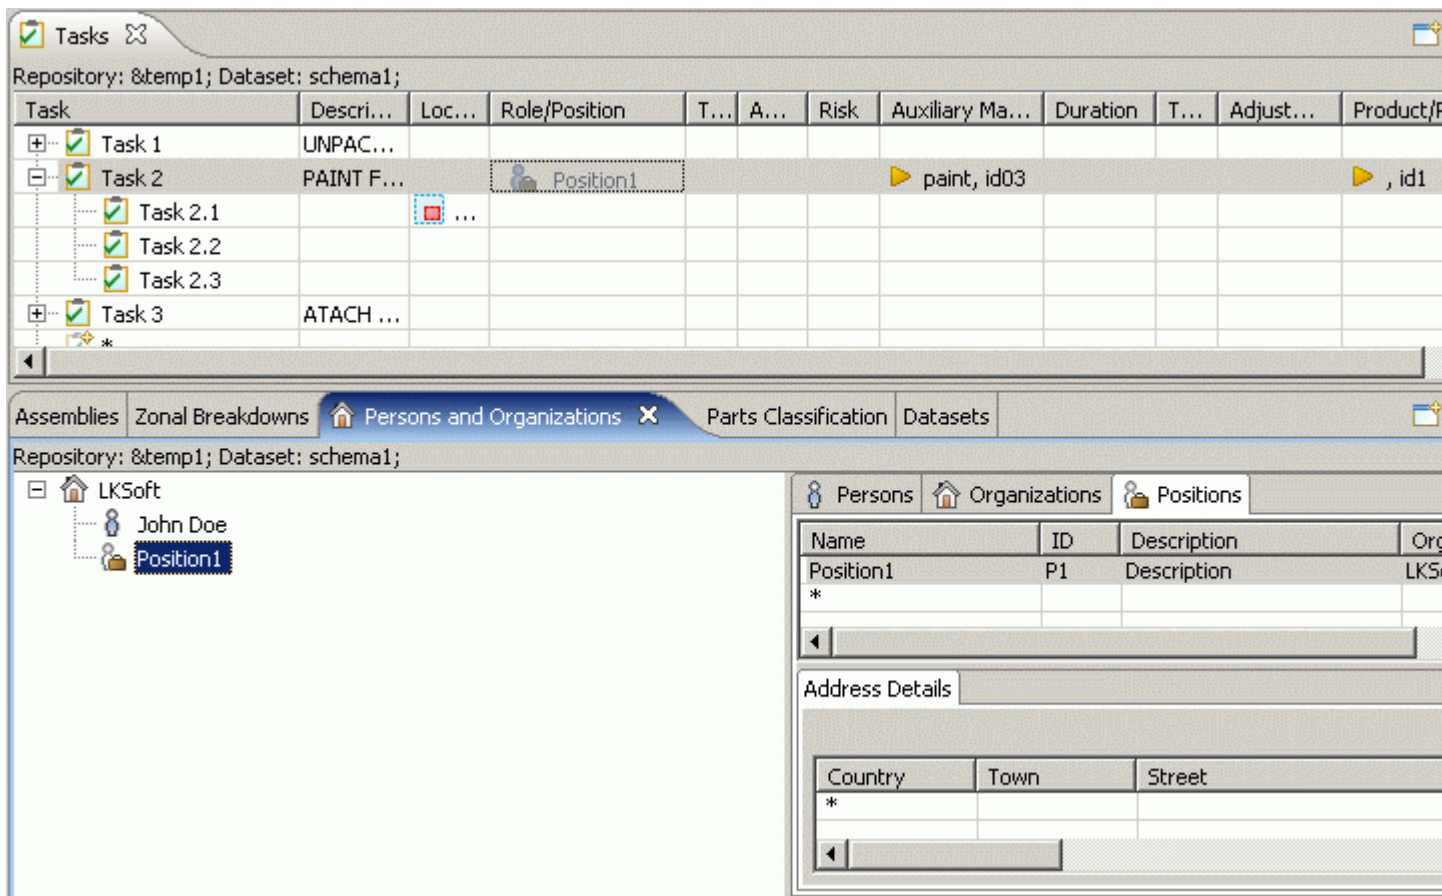

Figure 2. Selected position dragged onto task
- Drag the selected object onto the **Role/Position** column of an applicable task in the **Tasks** window. A transparent icon and name of the selected object appears while dragging (see Figure 2).